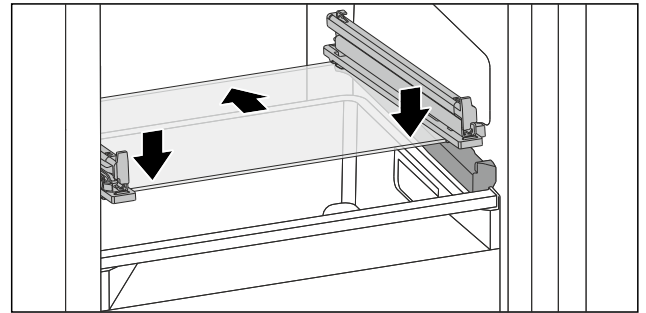

Fig. 141 Tilting drawer glass shelf
- ▶ Position glass shelf at an angle behind the stoppers. (see Fig. 141)